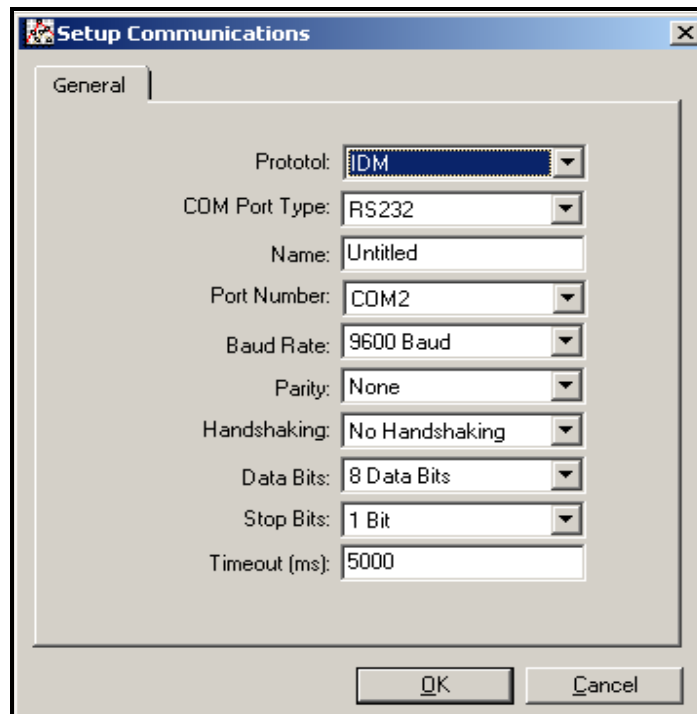

Figure 18: *Setup Communications* Screen
- Click on the "Communications Port" option to select it. The *Setup Communications* screen appears similar to Figure 18.